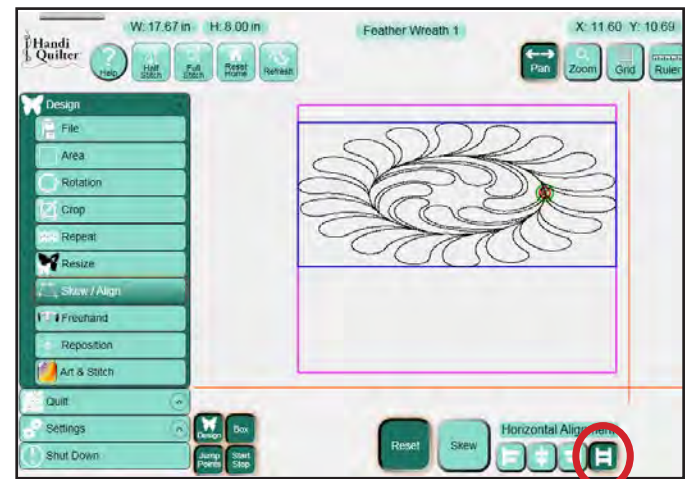

Figure 5.66
**Horizontal Stretch:** (Figure 5.66) The current design will be stretched (or shrunk) so the left side of the bounding box aligns with the left-most point of the **Area** and the right side of the bounding box aligns with the right-most point of the **Area**.